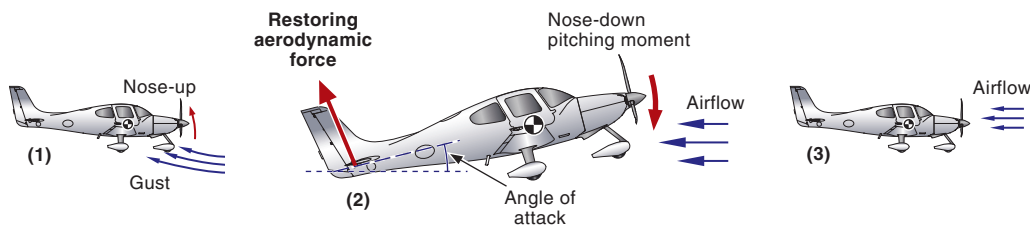

Figure 5-17 Longitudinal stability following an uninvited nose-up pitch.
Let us consider a situation that is constantly occurring in flight, referring to figure 5-17. If a disturbance, such as a gust (1), changes the attitude of the airplane by pitching it nose-up, the airplane, because of its inertia, will initially continue on its original flight path and therefore present itself to the relative airflow at an increased angle of attack (2). This will cause the horizontal stabilizer to produce a greater upward force (or decreased downward force) than before the disturbance. The increased aerodynamic force acting about the CG will produce a nose-down pitching moment, causing the airplane to return to its original trimmed condition (3).